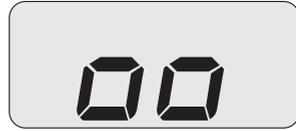
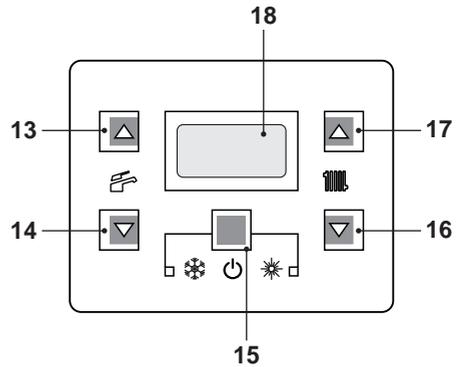

Fig. 7.5
Fig. 7.6
symbol (Fig. 7.5).
- Press the 15 key for 2 seconds until both and symbols appear on the display Fig. 7.6.
- Switch off the boiler by pressing the 15 (Fig. 7.6) key for 2 seconds until the **00** symbol appears on the LCD display (Fig. 7.5).
Press the reset key on the boiler control panel 15 (Fig. 7.6) to reset its functioning.